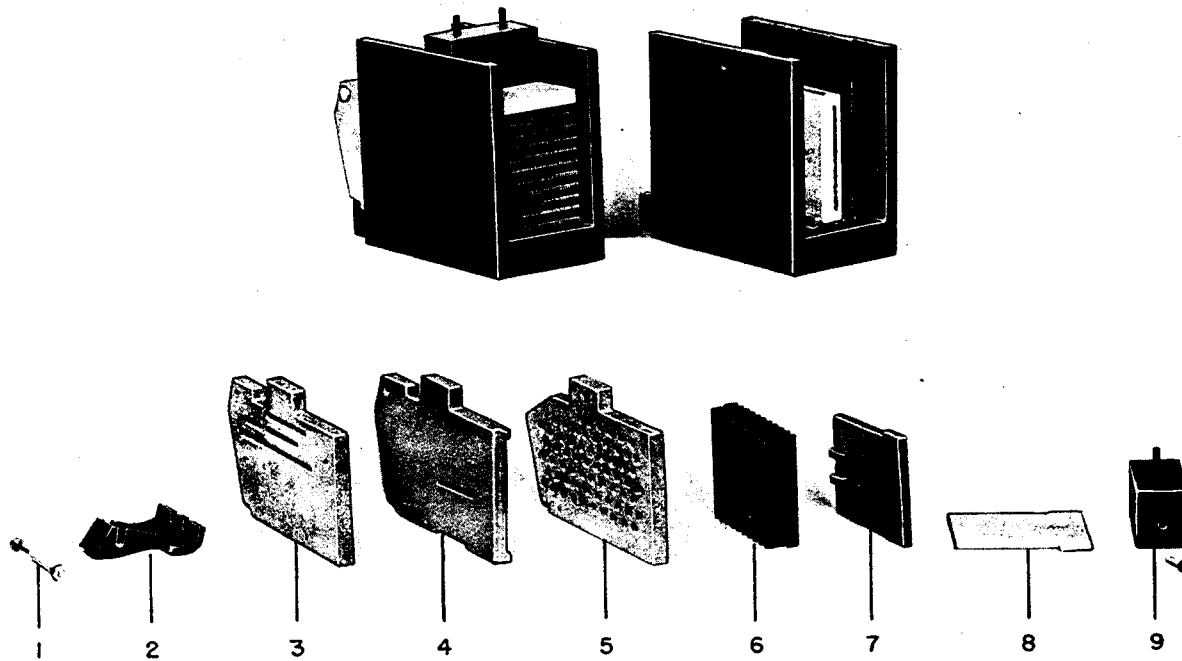

Fig. 4 (8014830) Disassembly of arc quenchers-standard breaker and AKF center pole.
### ARC QUENCHERS (Fig. 4 and 5)
**DISASSEMBLY—AK AND AKF CENTER POLE (Fig. 4)**